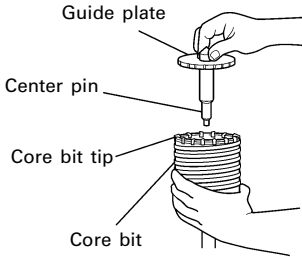

Fig. 19
- (3) Insert the center pin into the guide plate until it stops.
(4) Engage the guide plate with the core bit, and turn the guide plate to the left or the right so that it does not fall even if it faced downward. (Fig. 19).